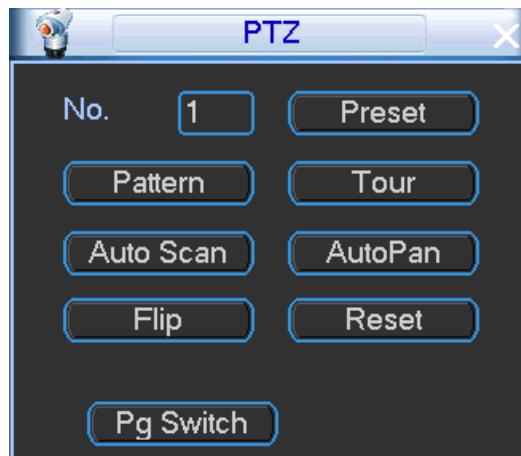

Figure 4-36
In _____Figure 4-32, click page switch button, the interface is shown as in ____Figure 4-36. Here you can activate the following functions:
- The following setups are usually operated in the ____ Figure 4-33, ____ Figure 4-36 and ____ Figure 4-37 .
In ____Figure 4-36, click preset button and input preset number. The interface is shown as in ____Figure 4-37.
In ____Figure 4-36, please input preset number in the No. blank, and click preset button.
In ____Figure 4-36., input patrol (tour) number in the No. blank and click patrol button
In ___Figure 4-36, input mode value in the No. blank, and click pattern button.
In ___Figure 4-36, click “Auto Scan” button, the system begins auto scan. Correspondingly, the auto scan button becomes Stop button. Click stop button to terminate scan operation.
In Figure 4-36, click Page switch button, you can see an interface is shown as below. See Figure 4-41. Here you can set auxiliary function. The aux value has relationship with the Aux button of the decoder.